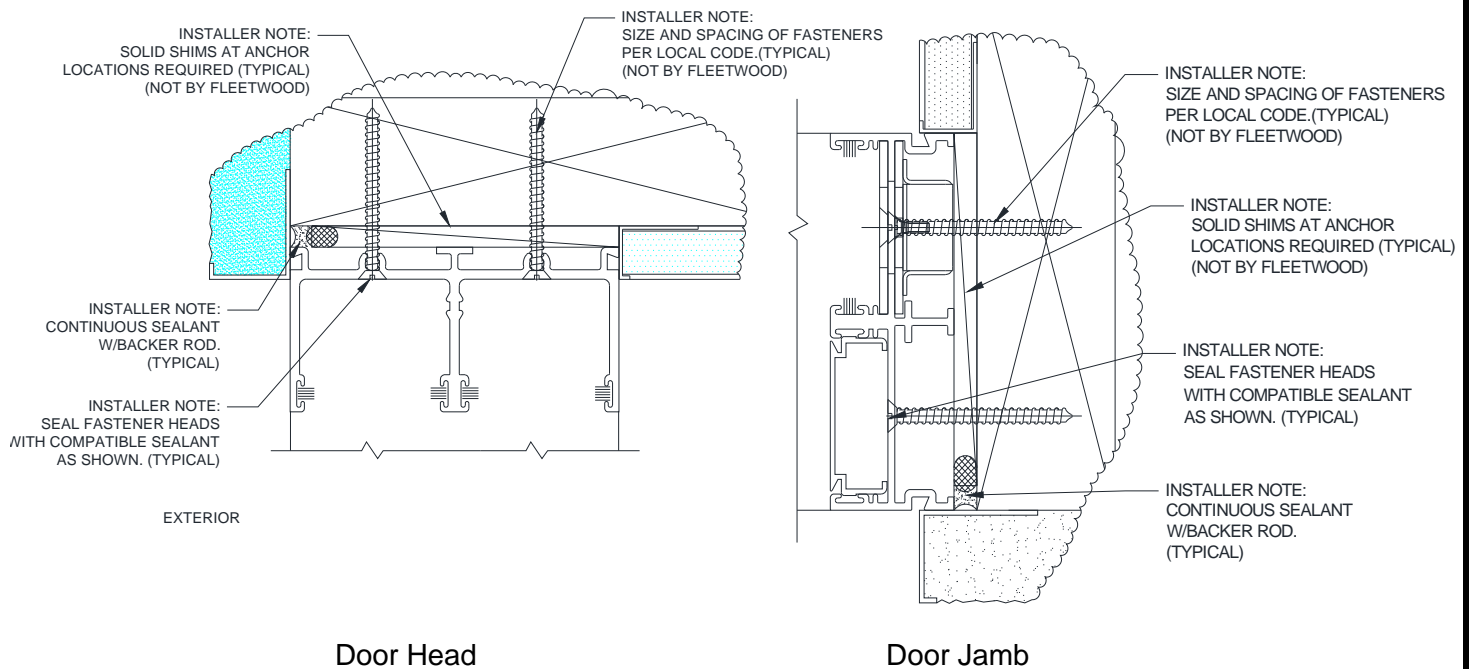
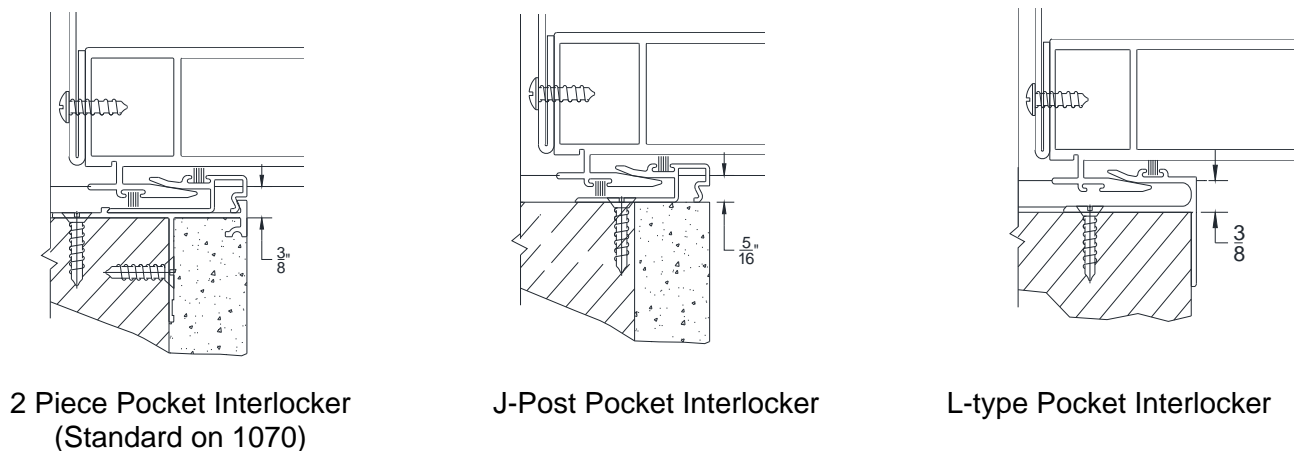

Figure 16:
Figure 17:
- Attach frame to structure as shown below (Figure 16). On pocket doors it is important to locate the frame 3/8" from the inside pocket wall where a 2-piece and L-type Pocket Interlocker is used to allow for proper interlocking of panel with post interlocker. On installations where the J-Post Pocket interlocker clip is only used, a 5/16" distance is required. Figure 17 illustrates the different Pocket interlocker options.